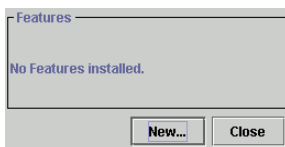

Figure 43 Configure Feature Key dialog box
1. Click **Configure > Features** on the Element Manager menu bar. The Configure Feature Key dialog box displays, as shown in Figure 43.